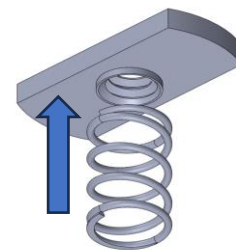

Figure 8: Combining the Spring with the Track Nut
6. Install spring onto track nut and insert into one of the crossbars as shown in Figure 8 & Figure 9.